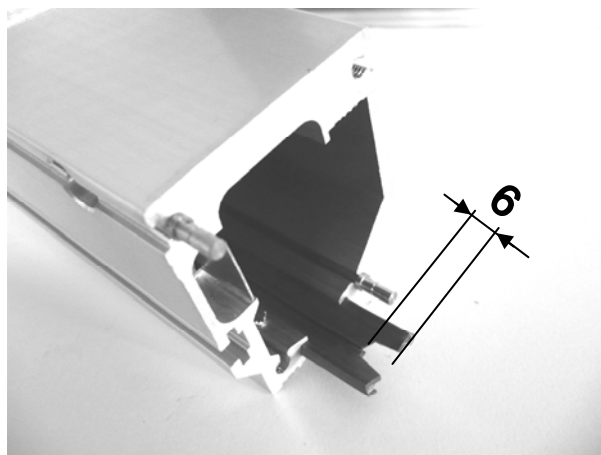
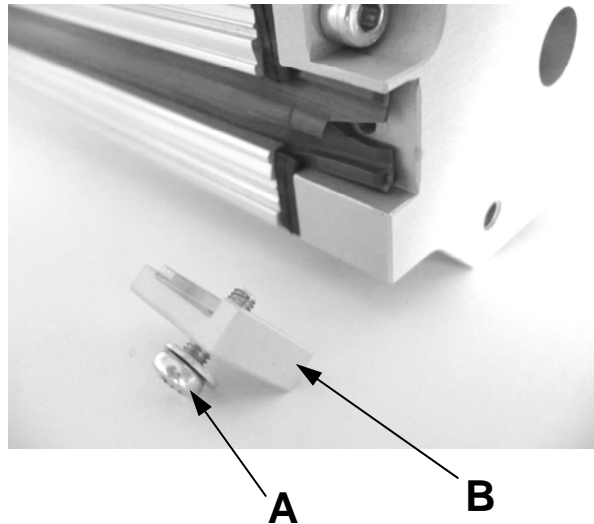

Figure 2.14
Figure 2.16
- c. Make a 6 mm incision in the final part of both sealing lips, so that they appear as shown in Figure 2.14. This incision will allow the installer to tighten screw A in the end cap (see Figure 2.16).
- d. Secure the sealing lips with screw A in plaque B, oriented as shown in Figure 2.16.
Repeat the operation of cutting the sealing lips, as described in paragraph 2.4.2. Secure the sealing lips with screw A in plaque B (see Figure 2.16).